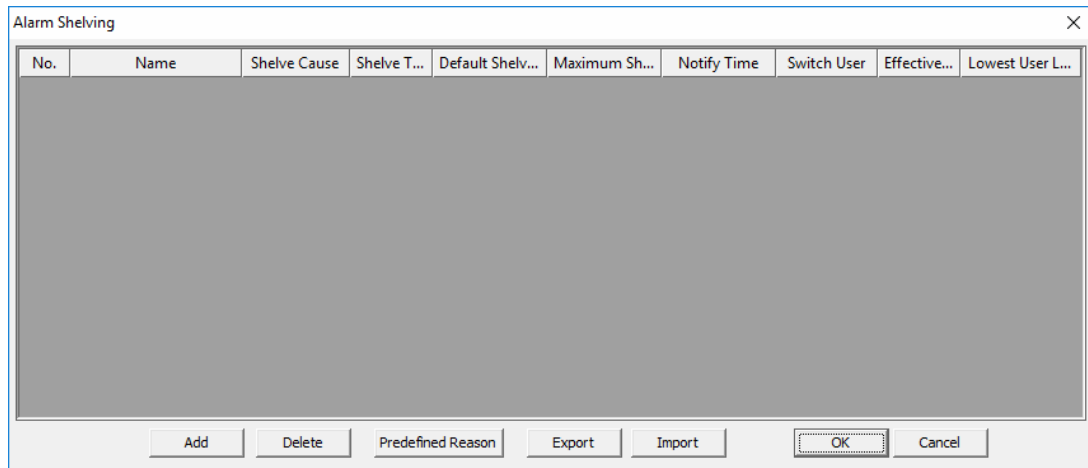

Figure 5-25 Alarm Shelve
1. Click "Export" in Figure 5-25, to pop up the "Save As" dialog.
1. Click "Import" in Figure 5-25, to pop up the "Open" dialog.